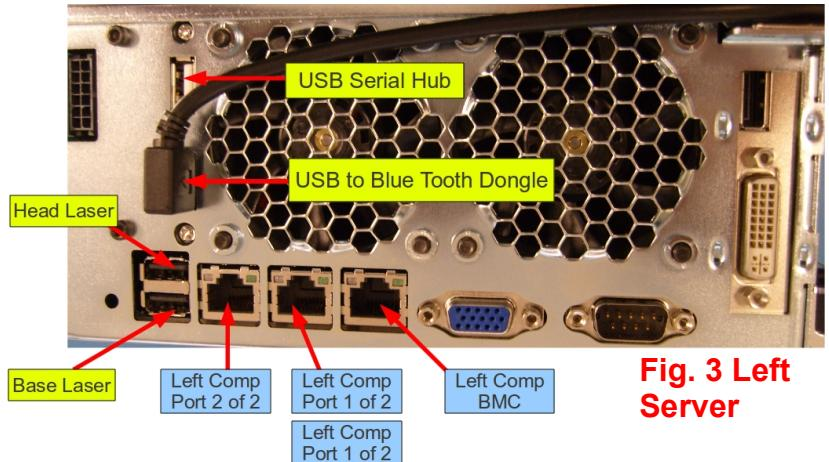
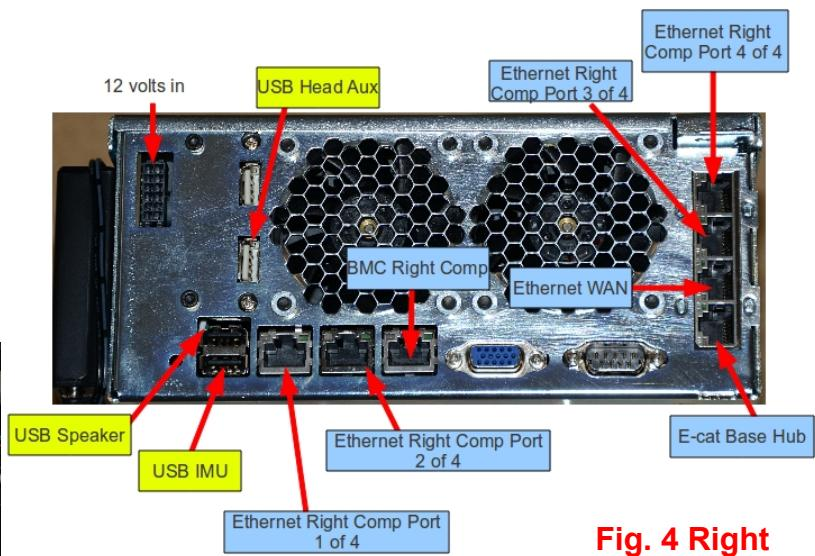

Fig. 3 Left Server
Fig. 4 Right Server
- Reconnect all cables to the server. Look at the labels on the cables and (Fig. 3 for left server, Fig. 4 for right server) below